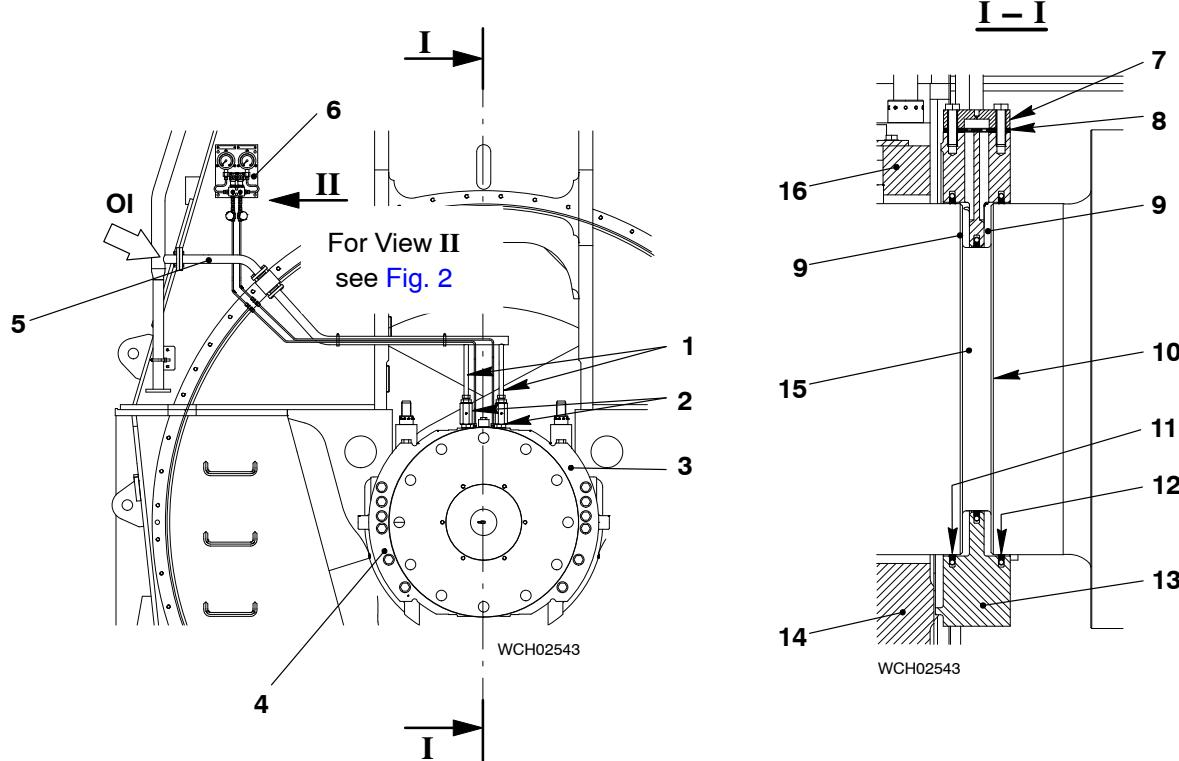

Fig. 1: Axial Damper
The axial damper includes a top cylinder half (3, Fig. 1) and a bottom cylinder half (4) attached with bolts to the last bearing girder.